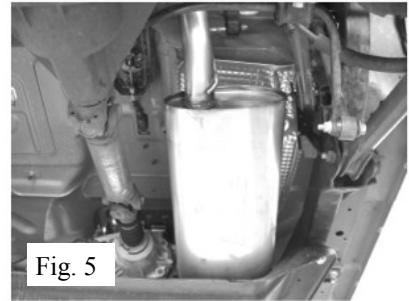

Fig. 5
1. Place your new Borla Performance muffler assembly into position installing the hanger into the rubber bracket. Using the hardware supplied, secure flange hand tight. (See Fig. 5)